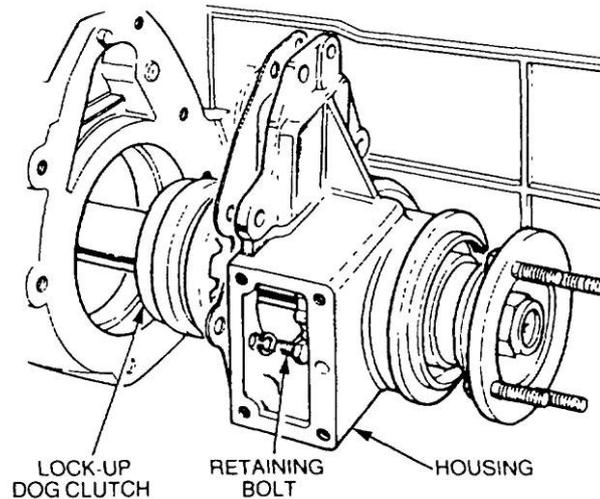

Figure 70 Removal of the Front Output Shaft and Housing
- n.** Remove the six bolts and lock-washers securing the front output shaft housing to the transfer casing (Figure 70). Withdraw the housing and output shaft. Remove the lock-up dog clutch, the output shaft and the oil seal. Remove the circlip, and using a suitable press, remove the bearing.